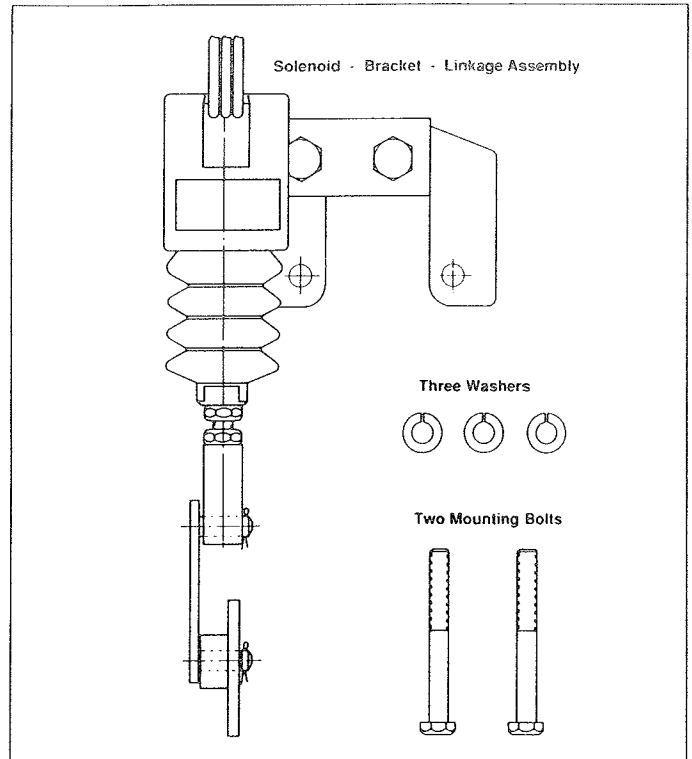

FIGURE 1: KIT CONTENTS
1. Refer to figure 1 to verify contents of the kit.
3. Remove existing fuel lever by removing existing bolt, fuel lever, spring cover and torsion spring. Discard original fuel lever and torsion spring. Save the original bolt (12) and spring cover (13) for later use. Torsion Spring **MUST** be removed!
4. Remove and discard the two upper governor housing bolts. These will be replaced during installation by new, longer bolts (6) and lockwashers (8) to ensure proper thread engagement.
- a. Place the solenoid/bracket/linkage assembly into position against the governor housing. Loosely attach utilizing new bolts (6) and lockwashers (8).
- b. Attach the new linkage assembly by installing original springcover (13), new fuel lever assembly (4), lockwasher (8) and original bolt (12). **DO NOT** reinstall torsion Spring!